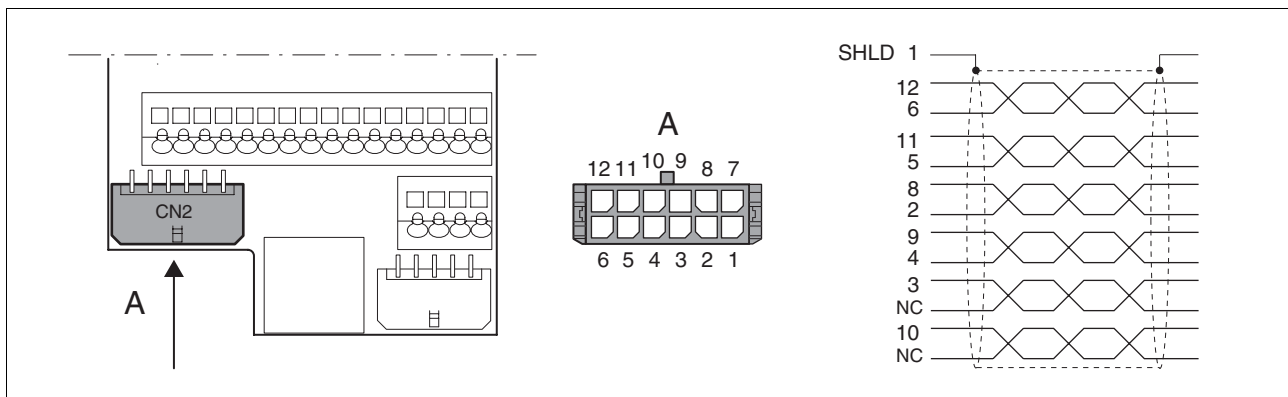

Figure 6.14 Motor sensor wiring diagram
- ▶ (1) Remove the cable sheath, length A depends on the device, see the table above.
- ▶ (2) Slide the shield braiding back over the cable sheath. The shield braided filler wire is required as the connection.
- ▶ (3) The red and the violet braided wires are not required and can be cut off. Insulate the shield braided wire with shrink wrap.
- ▶ (4) Crimp the plug contacts on the remaining braided wires and on the insulated shield braided wire. Insulate the shield braiding with shrink wrap. Plug the crimp contacts into the connector shell; for the pin assignment see Figure 6.14.
- ▶ (5) Sheath the cable to length C on the position shown, the cable is fastened there at the EMC plate with a clamp (shield-earth connection).